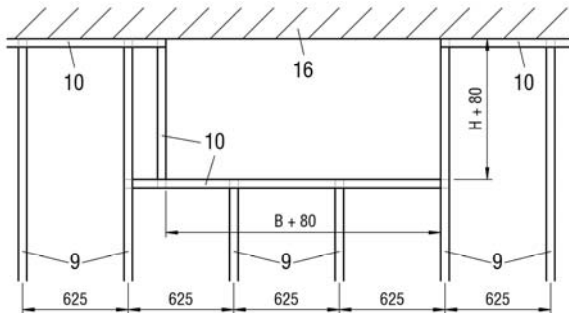

Figure 47: Metal posts with required exchange parts (dry installation directly under the solid ceiling with "mineral wool inlay")
- Mount the metal posts and the wall in accordance with the specifications of the wall manufacturer and the required exchange parts as shown on Figure 47. Leave a recess for installing the BKA-EN (pos. 1).
- Attach mineral wool (pos. 11.2) to the upper side of the BKA-EN. Cut out the mineral wool in the area of the thermal insulation (pos. 48). Insert the BKA-EN into the wall recess (operating side - observe the installation dimension of 210 mm) and press it against the ceiling.
- Doubling (pos. 49.2, operator side) consisting of plaster boards 2 x 12.5 mm, width = 60 mm is mounted on both H sides and the lower B side.
- Mineral wool (pos. 11.4; on three sides: bottom/right/left, compressed to a density of approx. 60 kg/m3) is inserted between the fire damper and the wall reveal in the appropriate wall thickness filling the cavity.
- Doubling (pos. 49.3, non-operator side) consisting of plaster boards 2 x 12.5 mm, width = 80 mm is mounted on both H sides and the lower B side.